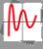

**Figure 3**
- **The composition of measurement hardware used with NextView®4 can be changed at any time. The "Device setup" dialog is accessible via the Windows® Start menu by clicking the item "Hardware Setup" in the NextView®4 program group (see **Figure 3**) or via the correspondent tile on the Windows® 8 start screen.**